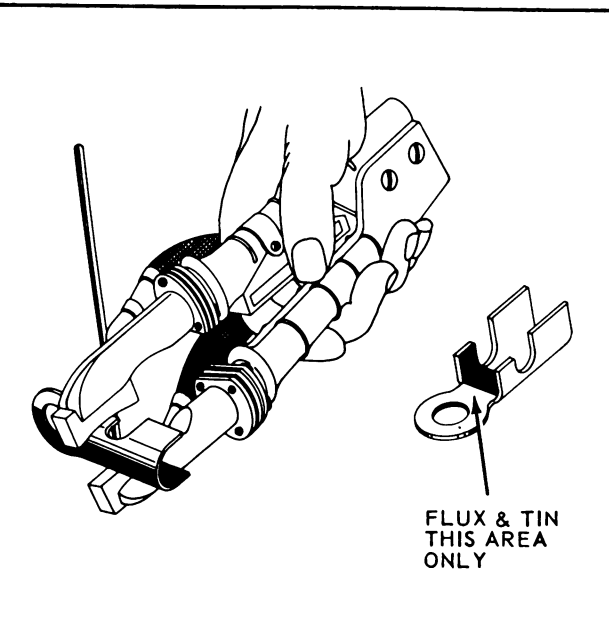

Figure 6-10. Resistance Tinning of Terminal
- Using a torch or the resistance heating pliers, melt a thin coat of silver solder onto inside of wire grip. See Figure 6-10 for use of resistance heating pliers in this operation.
- Grasp terminal and wire assembly, prepared in accordance with paragraph 6-20, at wire grip area. The resistance heating pliers are to be in same position as shown in Figure 6-10.